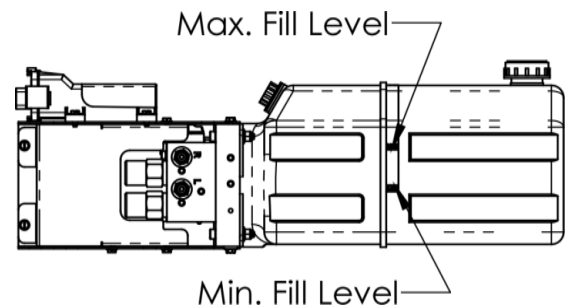

Figure 54. Final fill fluid level.
7. Add fluid to the reservoir until the fluid level is within the band shown in Figure 54.